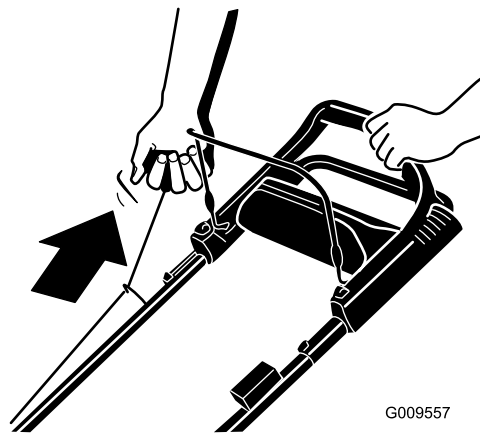

Figure 18
**Note:** You can start the engine either from the operating position (Figure 18) or at the engine (with the recoil-start handle out of the rope guide).